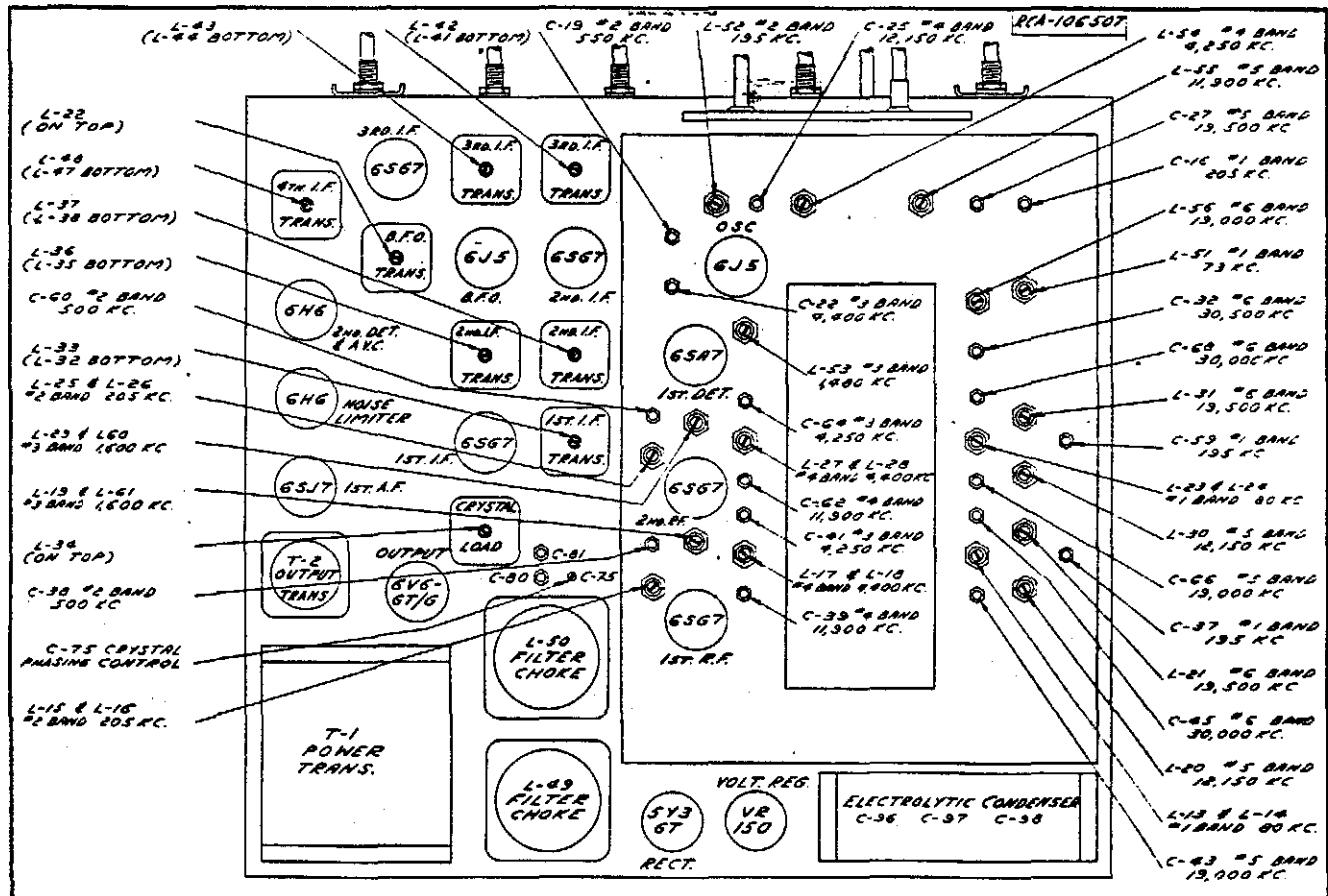

Figure 4.—General Purpose Communications Receiver—Alignment Layout.
- 6.4-8 Adjustment of Beat Frequency Oscillators:**—Tune in a signal either R-F or I-F to exact resonance with Power-Transmit-Receive Switch at "Rec. Mod" (Fig. 1.). Turn on beat frequency oscillator by turning switch to "Rec. CW". If zero beat does not fall within the range of the BFO control, adjust BFO Trimmer L-22 (see Fig. 4) until zero beat occurs at the mid-point setting of the BFO control.